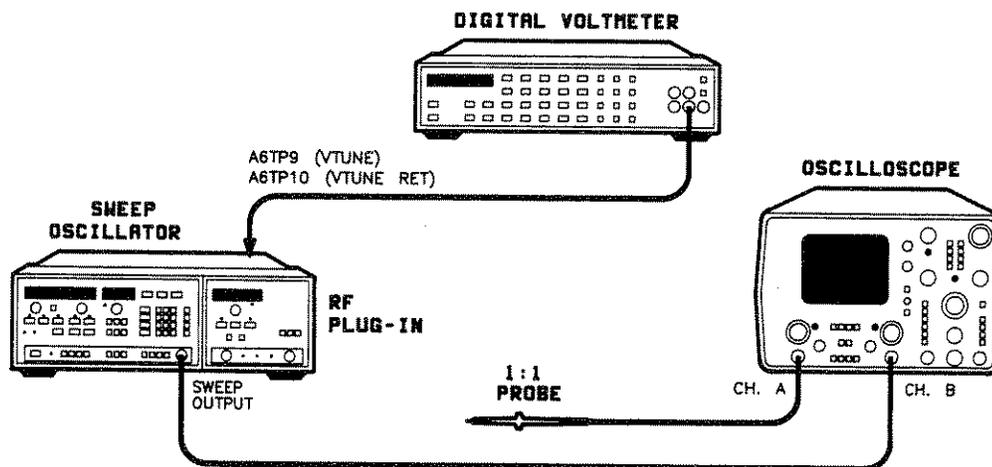
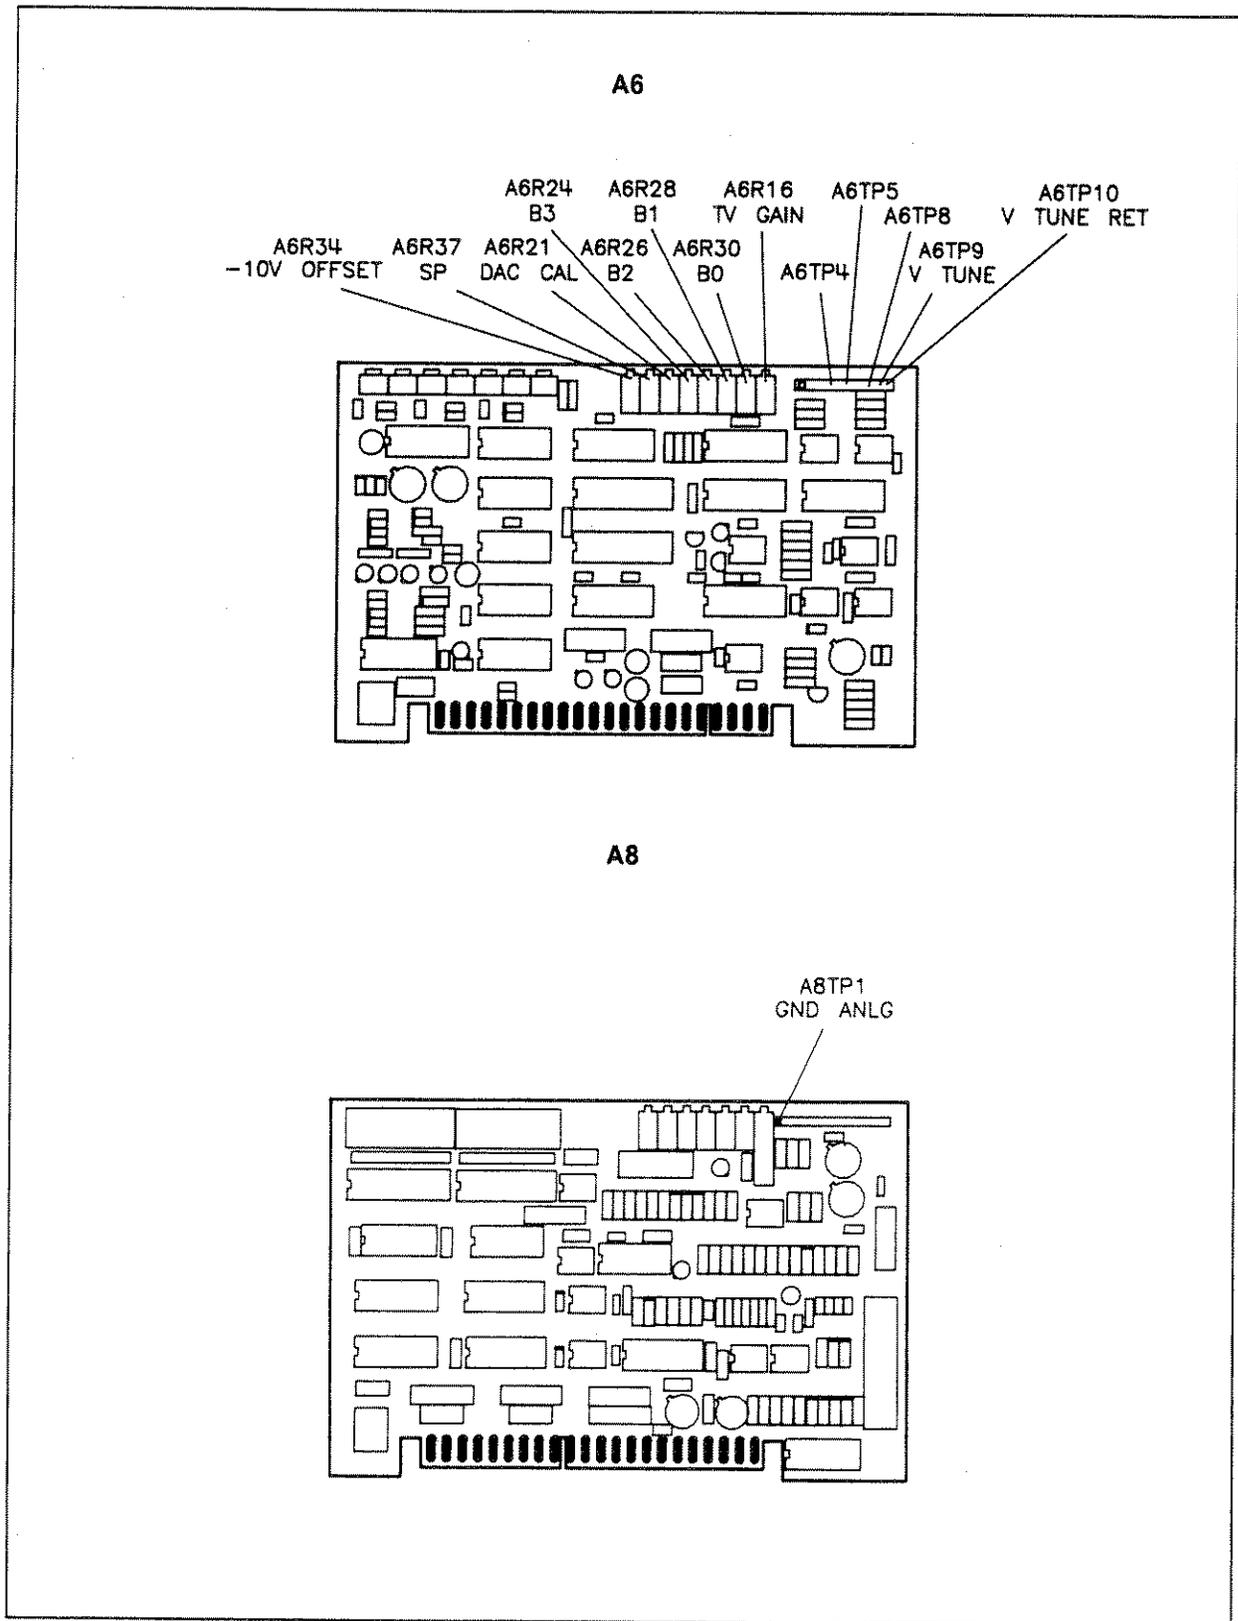

Figure 5-2. Sweep Control Adjustments Test Setup
Figure 5-3. Sweep Control Adjustment Locations
2. Set up the equipment as shown in figure 5-2 with the DVM HI connected to A6TP9 (V TUNE) and DVM LO connected to A6TP10 (V TUNE RET). See figure 5-3 for test point location. Do not connect the oscilloscope probe yet.
4. Connect DVM HI to A6TP5 and adjust A6R16 (TV GAIN) for a DVM reading of -10 ± 0.001 V dc. See figure 5-3 for sweep control adjustment locations.